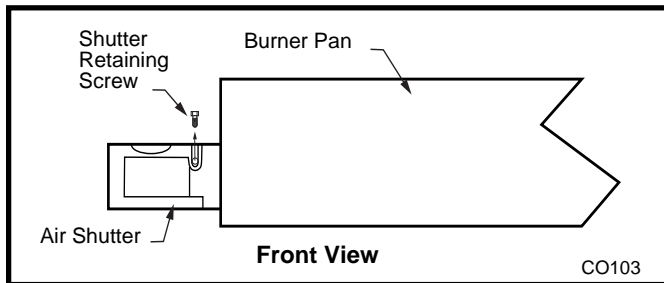

Fig. 67 Remove air shutter from burner pan.
8. Remove both air shutters from burner pan by removing air shutter retaining screw then air shutter. (Fig. 67)